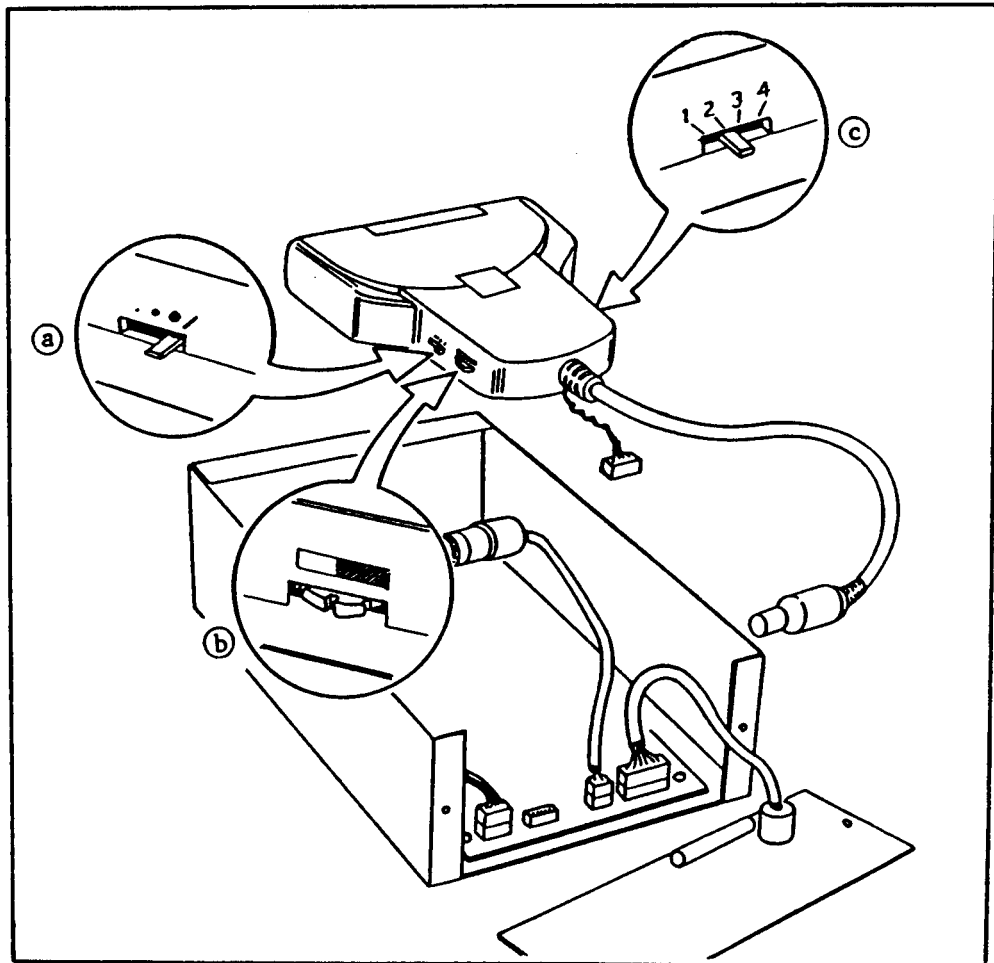

Figure 3-1 Signature Scanner switch settings
- a. Looking at the scanner from the rear, on the left side, set the switch nearest the front (gray level or bi-level) to the "/" position ("a" in Figure 3-1).
- b. Also on the left side of the Scanner, set the thumbwheel (contrast adjustment) to the center position ("b" in Figure 3-1). (If the signature on a finished print is too light or too dark, move the thumbwheel toward the light or dark band accordingly).
- c. Finally, on the right side of the Scanner, set the dots/inch switch at "2" ("c" in Figure 3-1).